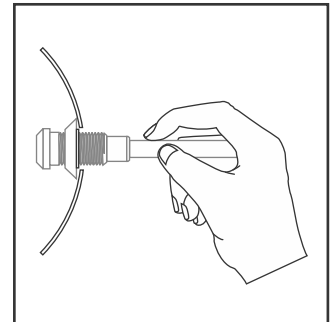

Fig. 45: Seat the Seal
6. Seat the Seal: With the seal inside the duct and positioned on the test port shoulder, seat the seal lip in the hole by firmly pulling the handle so that the test port threads slide through the seal and protrude from the duct hole. Ensure that the seal lip is still seated in the hole. (Fig. 45)
- 6. Seat the Seal:** With the seal inside the duct and positioned on the test port shoulder, seat the seal lip in the hole by firmly pulling the handle so that the test port threads slide through the seal and protrude from the duct hole. Ensure that the seal lip is still seated in the hole. (Fig. 45)